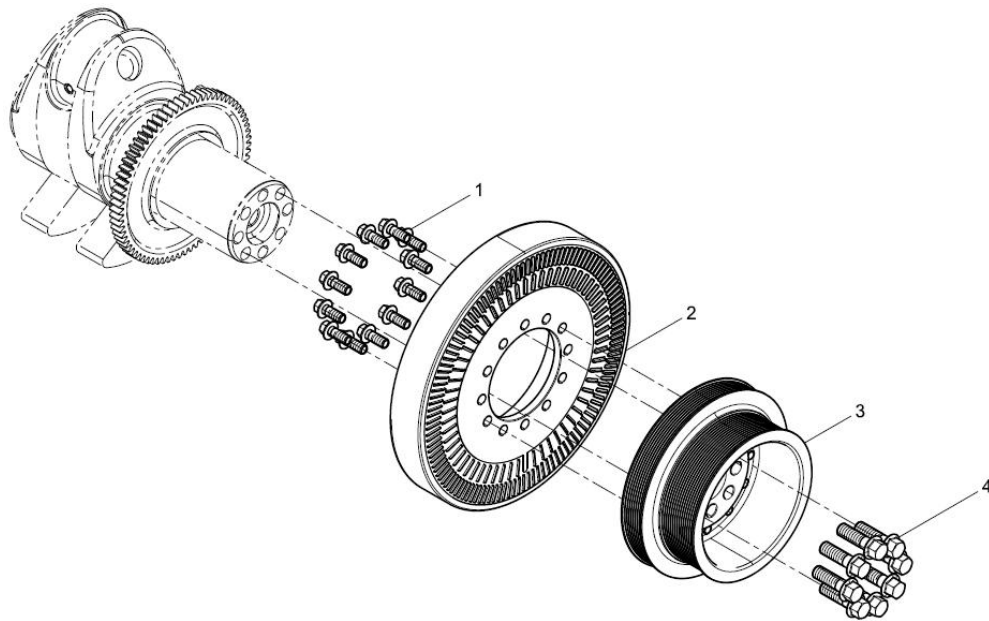

Figure 16. Crankshaft Pulley Assembly
1. Remove the bolts (Figure 16, Item 4).
2. Carefully remove the crankshaft pulley (Figure 16, Item 3).
1. Place the pulley (Figure 16, Item 3) onto the damper (Figure 16, Item 2).
2. Insert and torque the bolts (Figure 16, Item 4).